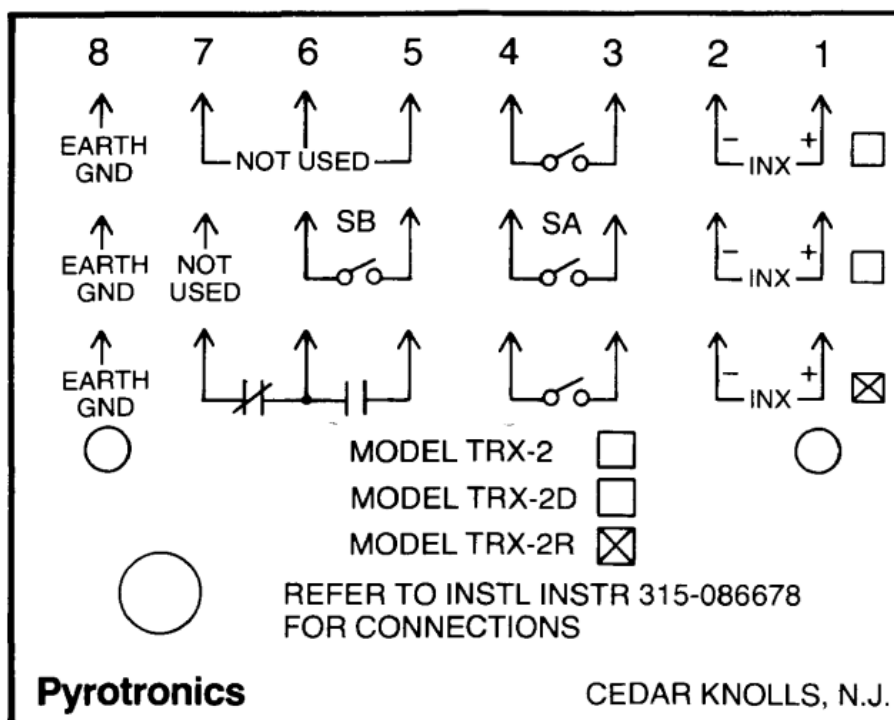

FIGURE2
2. Refer to the wiring information on the faceplate (See FIGURE 2). Each module has an X marked to indicate the type of model and another X marked to indicate the wiring connections to be made to that module.